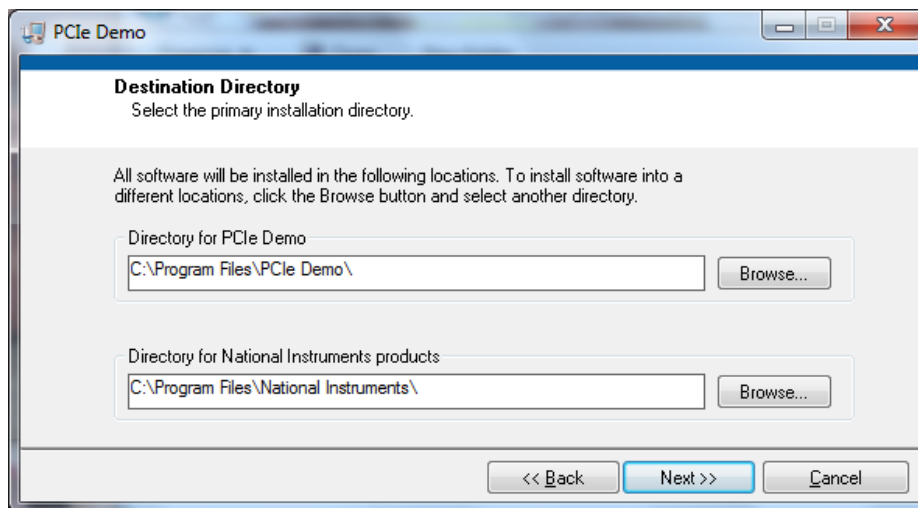

Figure 58 GUI Installation
2. Double-click the **setup.exe** in the provided GUI installation (*PCIe_Demo_GUI_Installer\setup.exe*). Apply default options as shown in Figure 58.